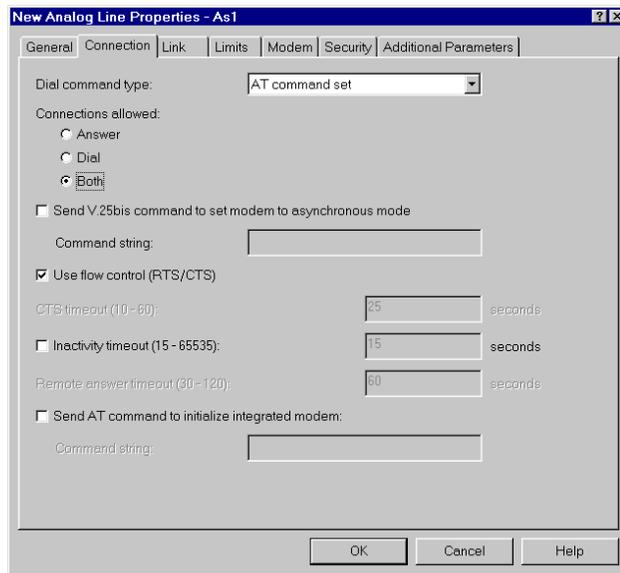

Figure 98. Setting the connection parameters for a new PPP line
4. Click the **Connection** tab (Figure 98).
Set Connection to **Both**, and click **Use flow control** (Figure 98).